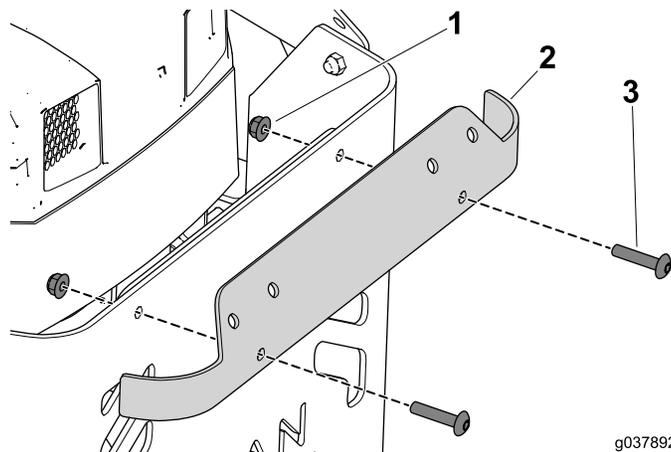

Figure 18
1. Remove the bolts and nuts that secure the upper trim to the machine (Figure 18).